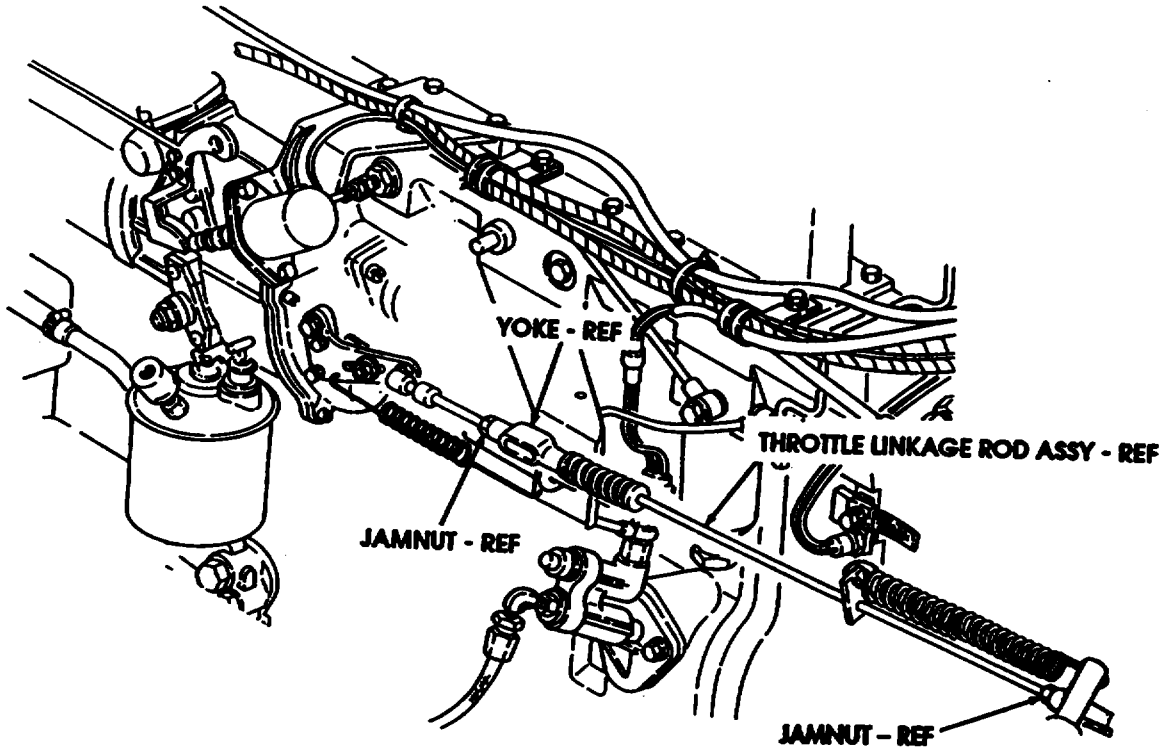

Figure 12
- (1) Start engine CTM 9-2320-272-10) and check engine idle.
- (2) Loosen jamnut and turn yoke until engine idle is within limits. If necessary, turn throttle linkage rod assembly (12363294-2) as shown in figure 12. Tighten jamnuts.
- (3) Depress accelerator pedal and check that engine speed reaches 2100-2300 rpm. If necessary, loosen jamnut and adjust stopscrew on cab floor until proper engine speed is reached. Refer to Section 'B', step '8".
- (4) Check modulator cable adjustment L(TM 9-2320-358-24&P).
- a. When installed correctly, the Accelerator Linkage Modification Kit will appear as shown in figure 12.